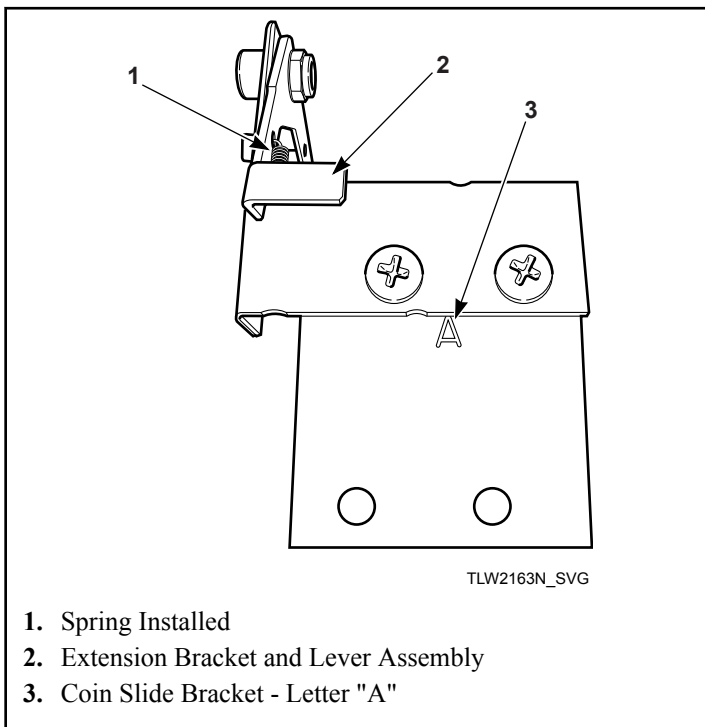

Figure 30
5. Install extension bracket and lever assembly onto coin slide bracket using two screws and locknuts. Refer to *Figure 30*.
IMPORTANT: Install coin slide bracket with side marked "A" facing up and toward extension bracket and lever assembly. Refer to *Figure 30*.